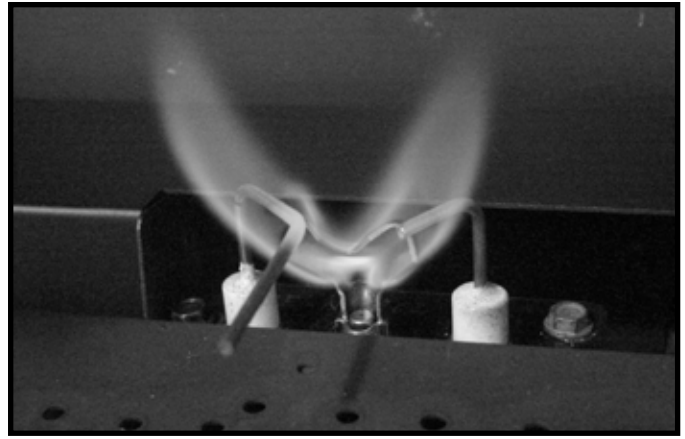

Figure 4.6 IPI Pilot Flame Patterns
- Inspect pilot flame pattern and strength. See Figure 4.6 for proper pilot flame pattern. Clean or replace orifice spud as necessary.